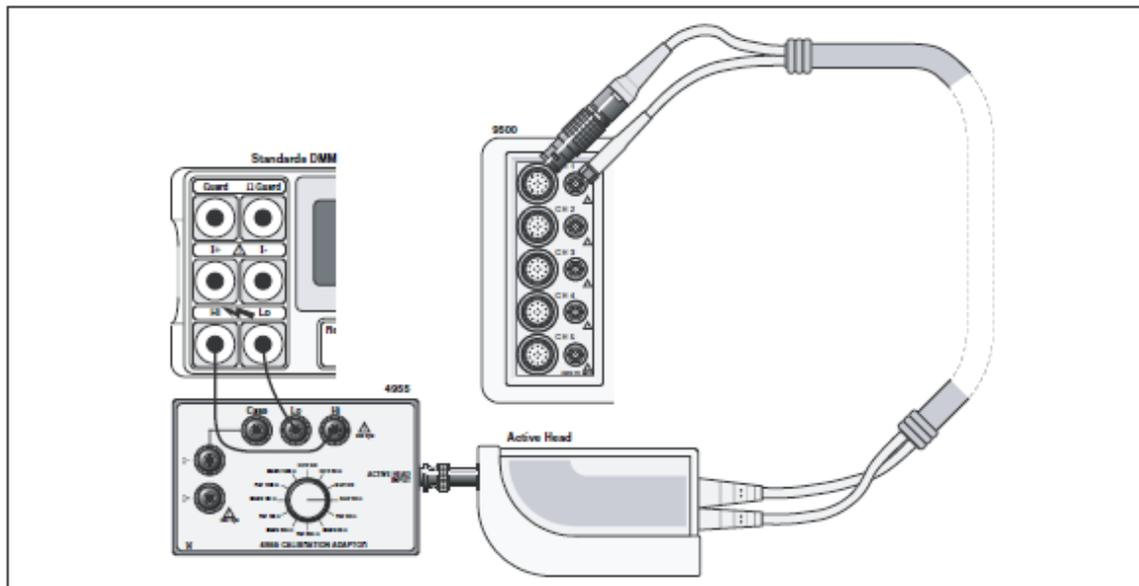

Figure 9. LF Sine Voltage Verification — Interconnections
1. Connections: Ensure that the 9500B is connected to the DMM as shown in Figure 9, or via a similar PC3.5 or BNC-4 mm adaptor, and that both instruments are powered on and warmed up.